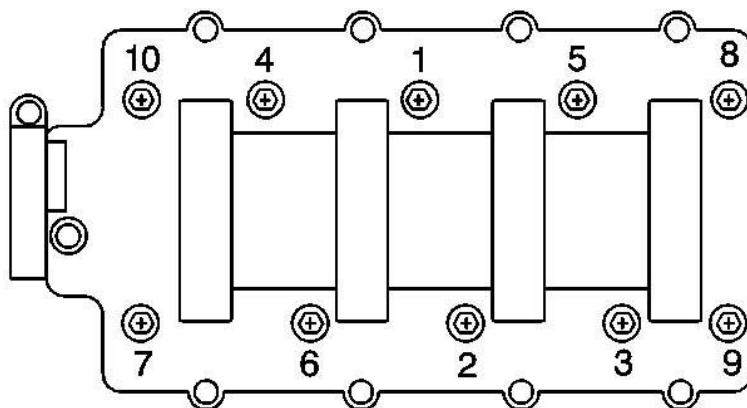

Figure 1: Recommended factory tightening sequence
6. Install the supplied socket head cap screws into the cylinder heads with flat washers. Apply light lubrication to the threads and hand tighten all screws working side to side and out from the centre (refer to figure 1) until the manifold is fully seated on the mounting flanges and the O-rings have been compressed.